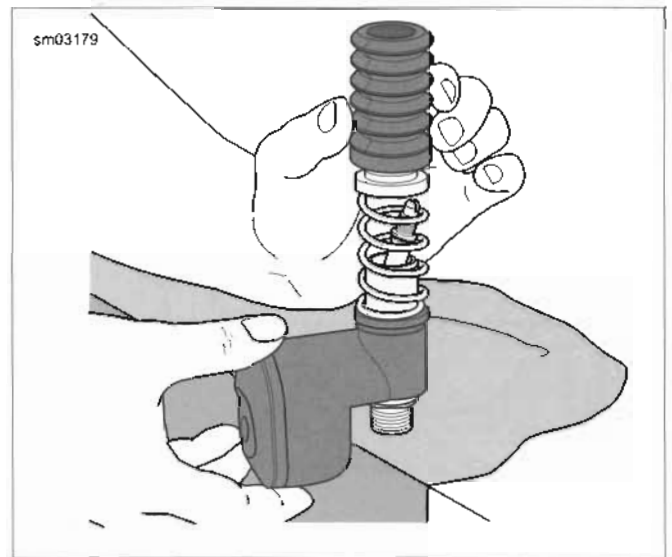

Figure 2-51. Master Cylinder Assembly
- Wipe bore of reservoir (18) adapter with DOT 4 BRAKE FLUID.
- Insert cartridge body (2) into reservoir adapter. Align tab on adapter with slot on threaded end of cartridge. Use hand pressure only. Cartridge body is fully installed when reservoir adapter contacts large retaining ring.
- See Figure 2-51. Stand master cylinder assembly upright on banjo sealing surface. For best results, suspend reservoir over edge of table. Be sure to lay down a clean shop cloth to protect the sealing surface from damage.